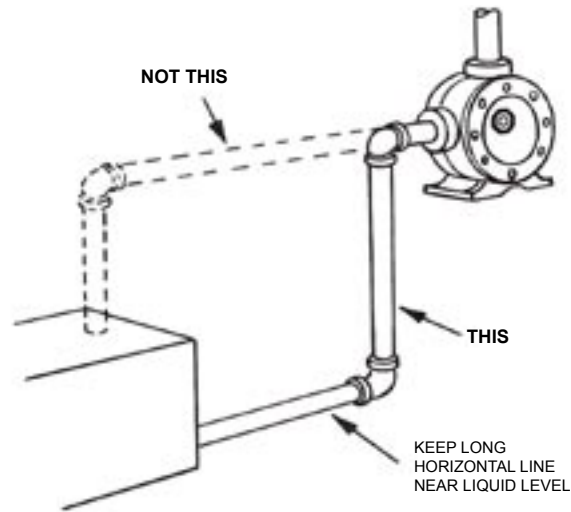

FIGURE 11
6. For a suction line with a long horizontal run keep the horizontal portion below the liquid level if possible. This keeps the pipe full so the pump does not have to remove so much air when starting; this is most helpful when there is no foot valve. See Figure 11.